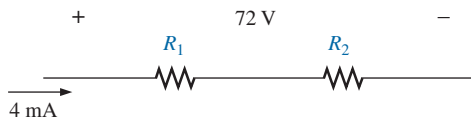

FIG. 5.115
32. Design the voltage divider in Fig. 5.115 such that $V_{R_1} = 1/5V_{R_2}$. That is, find R_1 and R_2 .